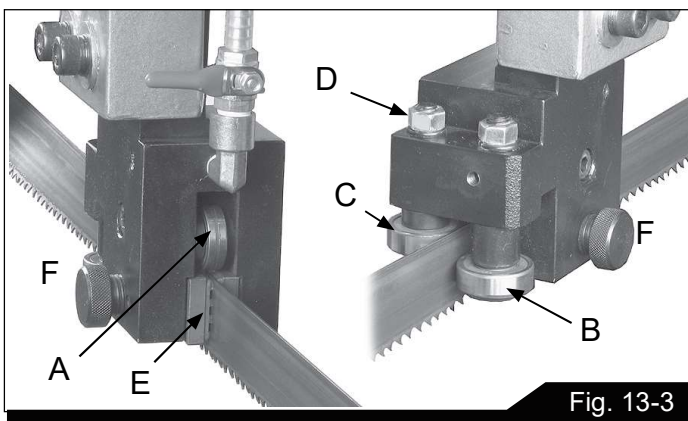

Fig. 13-3
11. Twist the blade and slip it into the blade guides with the back of the blade against the back-up bearing (see Fig. 13-3). **NOTE:** If roller bearings need adjusting refer to sect. 13.4.
Fig. 13-3 shows the left hand blade guide assembly. Adjustments for the right hand guide will be identical.
The back of the blade should ride against the back-up support bearing (A, Fig. 13-3) which is positioned at 90-degrees to provide greater support and prevent deflection at the back of the blade.